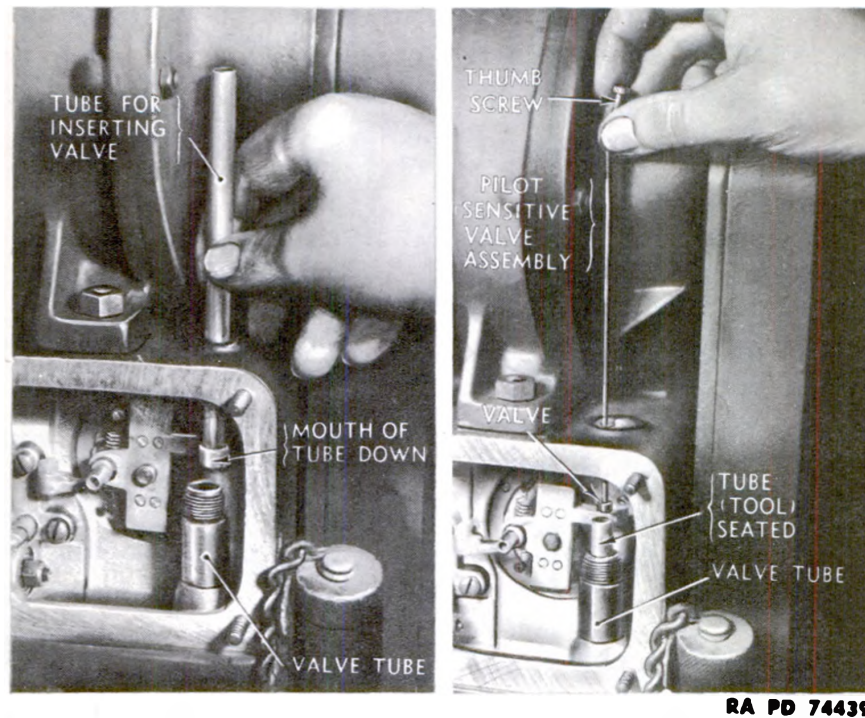

Figure 190 – Replacing Pilot Valve
(1) There is provided in each set of oil gear tools a tube for quickly and accurately inserting the pilot valve into the plunger of the relay valve of the oil gear. It should always be used in inserting this valve, as otherwise the valve may become caught in the mechanism and require disassembly of the oil gear to free it.
(2) Precaution. Be sure tool is absolutely clean before using. Clean with SOLVENT, dry-cleaning.
(3) Be sure that the differential has been pushed back as described in subparagraph a (5), above, before using the tool.
(4) Insert the tool bell-mouth down, through the 1/2-inch hole in the top of the transmitter and differential housing and through the sensitive valve tube until it seats over the plunger in the relay valve (A, fig. 190).
(5) Now install the sensitive valve by slipping it down into the tube (B, fig. 190).
(6) Withdraw the tube.
(7) Slide differential forward, position properly with the pin
**40-MM AUTOMATIC GUN M1 (AA) AND 40-MM ANTI-AIRCRAFT